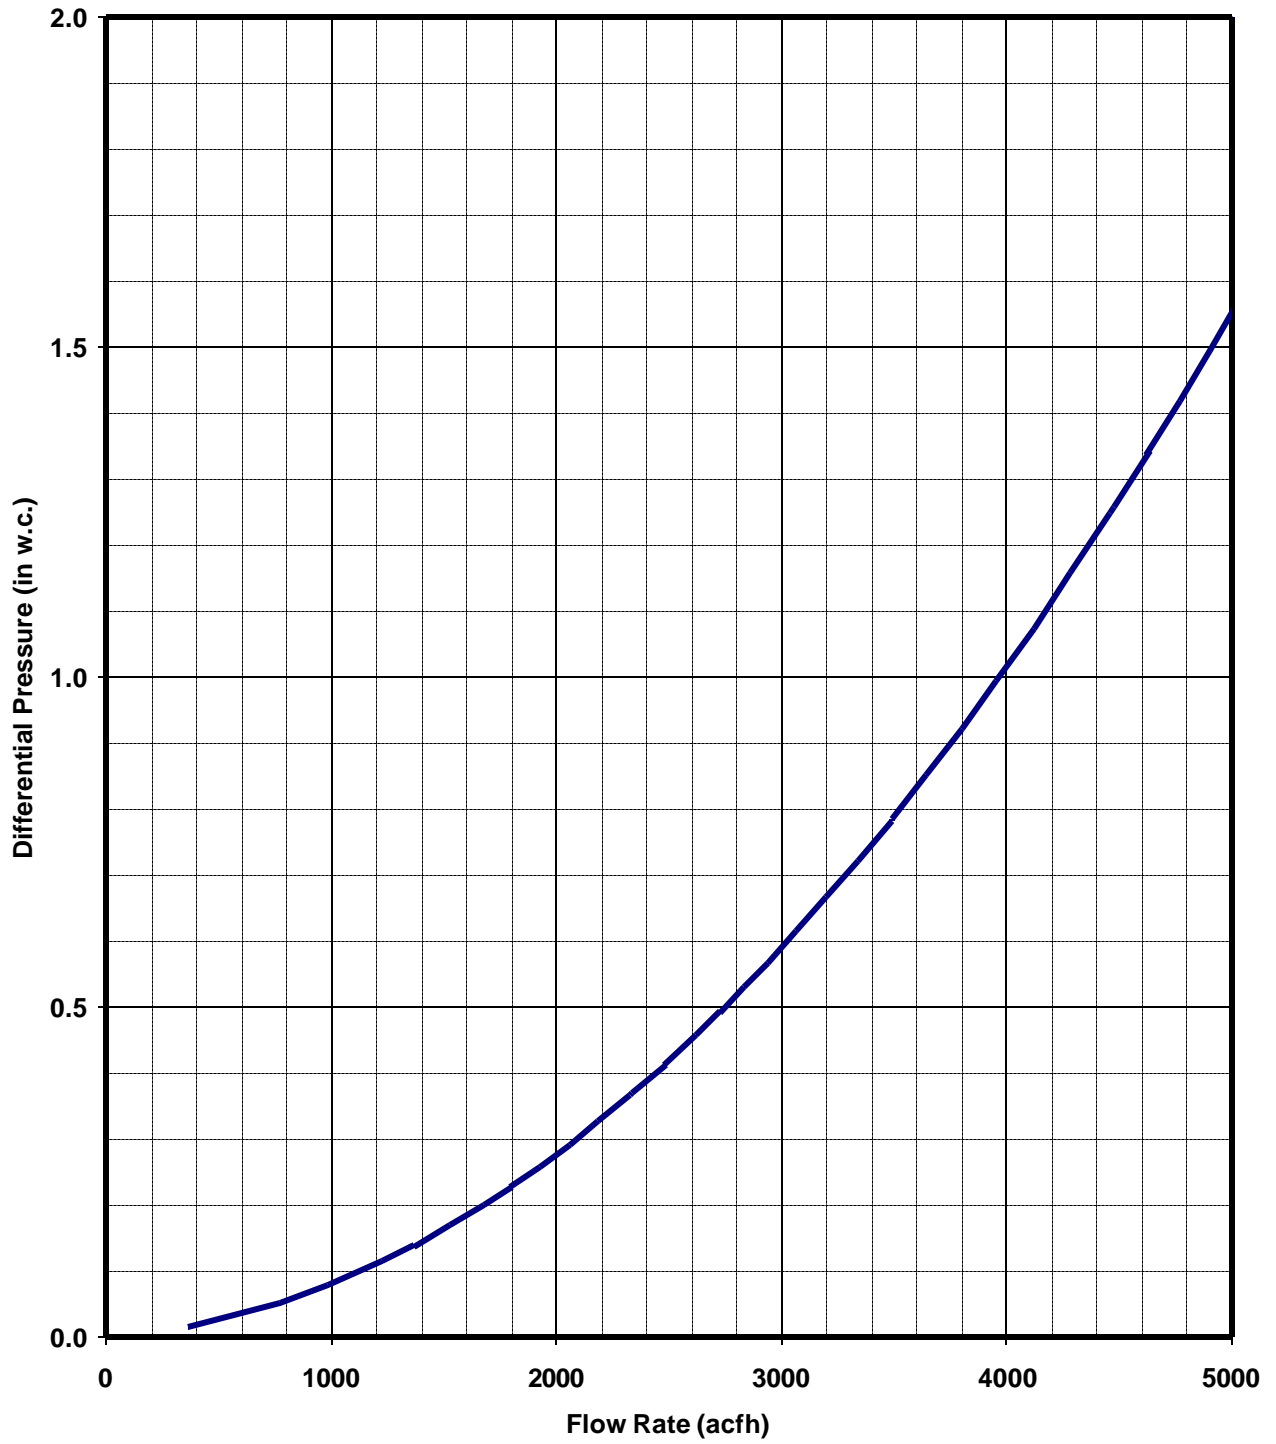
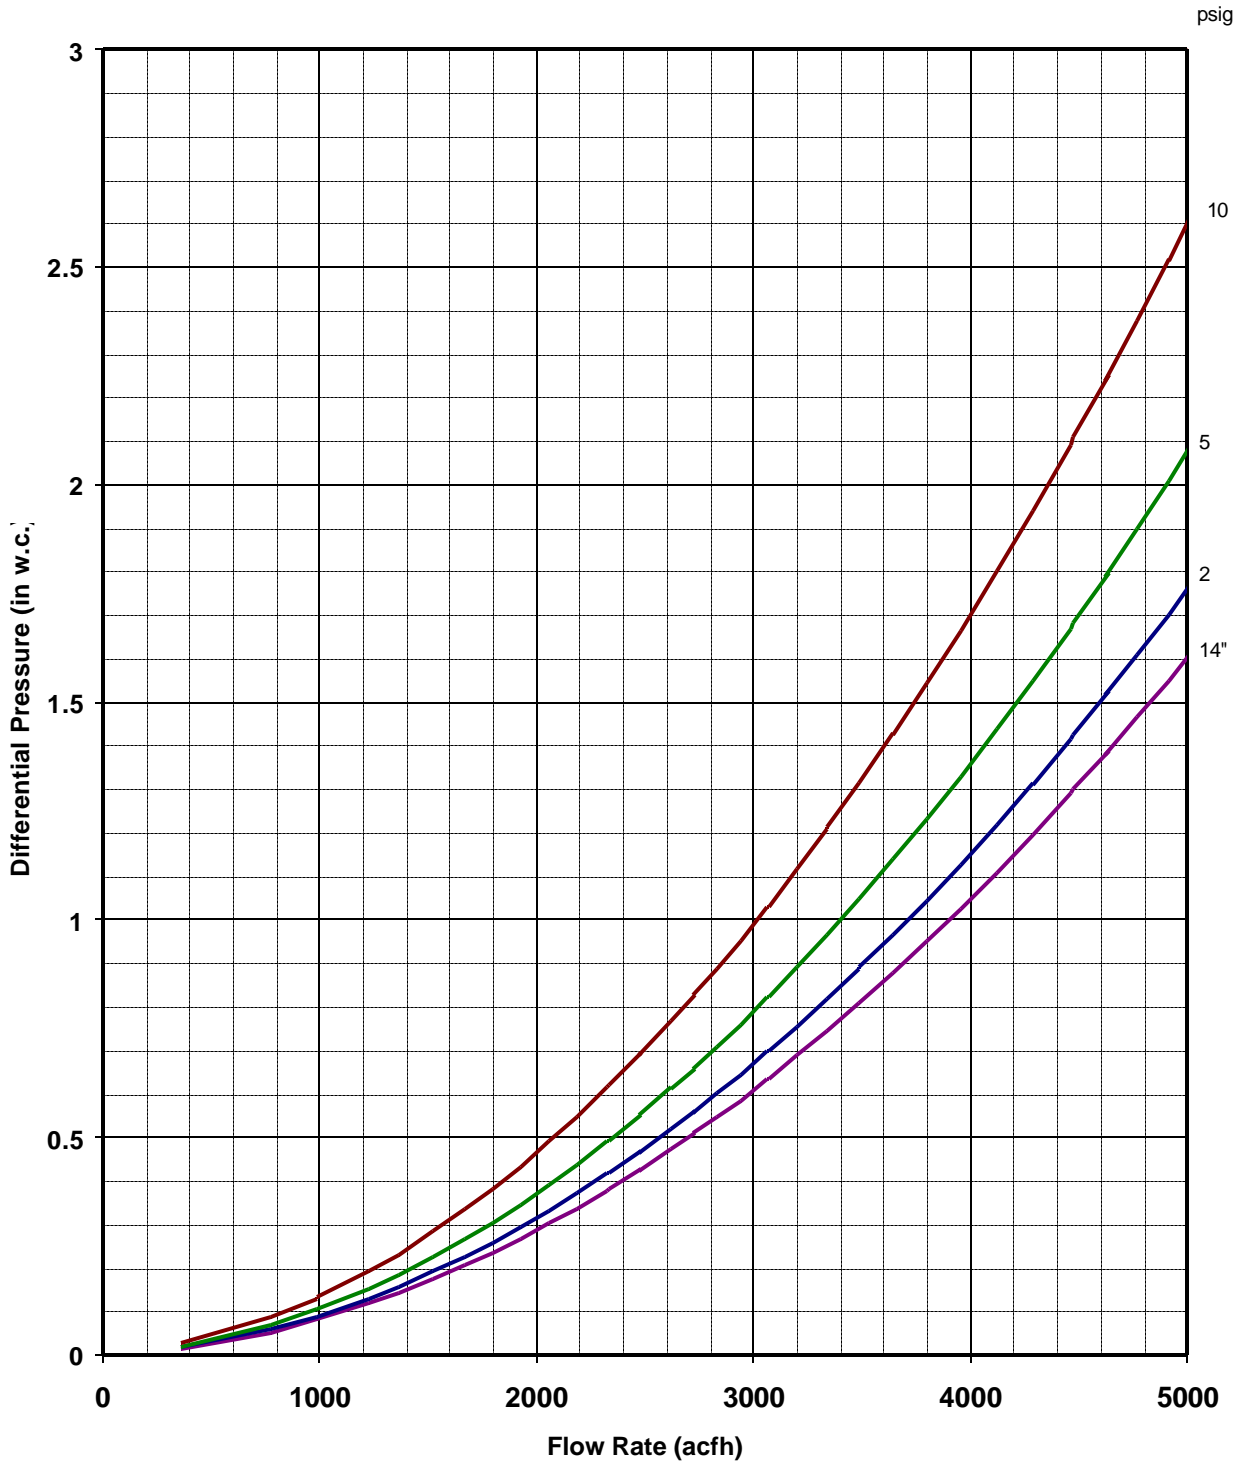
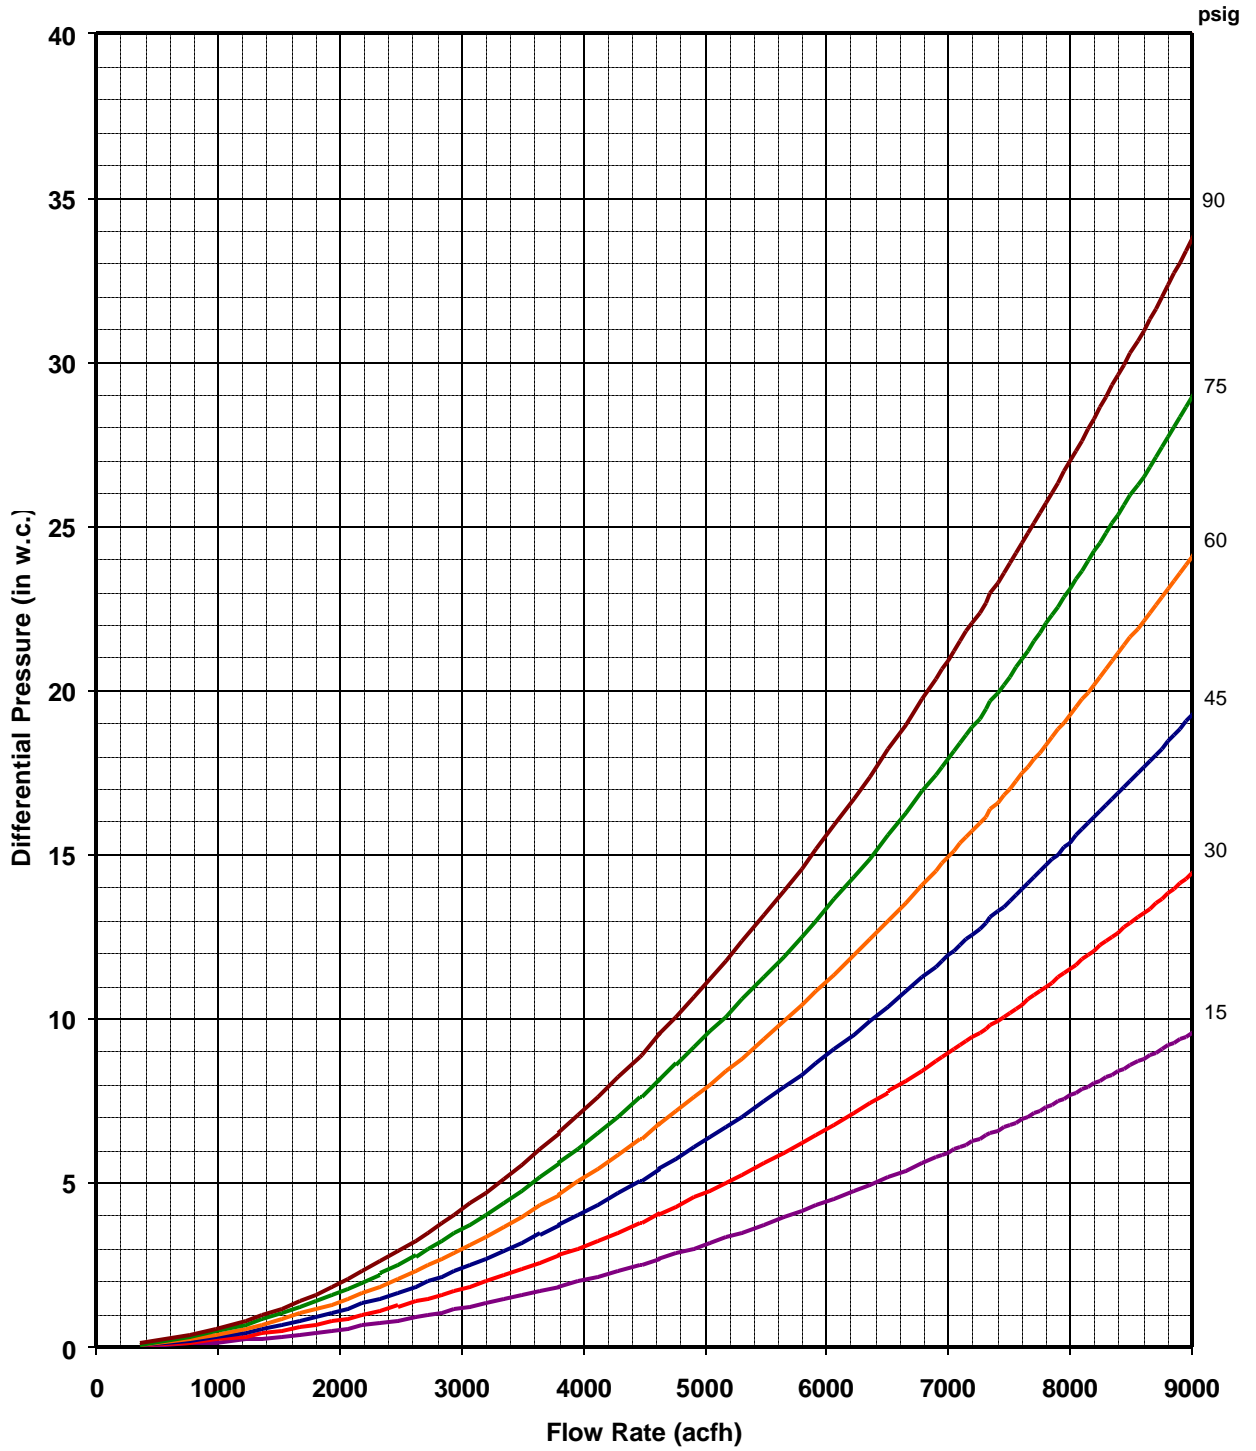

Figure 5.2 3" Dattus fM2 at Atmospheric Conditions
Figure 5.7 3" Dattus fM2 up to 5000 acfh
Figure 5.10 3" Dattus fM2
The following table lists differential data at common flow rates. For additional differential data refer to the graphs shown in Figure 5.2 through Figure 5.10.
- 4 Refer to the graphs shown in Figure 5.2 through Figure 5.7 to determine the approximate accuracy of the meter. Select the graph with the appropriate line pressure and flange size that has the best resolution for the flow rate at which measurement has taken place.
For example, using the graph in Figure 5.2, a differential of 0.50 inches w.c. shows a flow rate of 2640 acfh. Compare the reading from Dattus's instantaneous flow rate display. If the meter display shows 2612 acfh, then the approximate meter accuracy is 1.06%. The calculation is shown below: